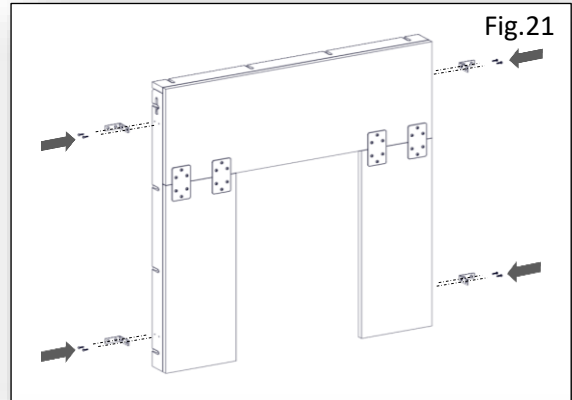

Fig.21
31. Using the 8x 16mm Dome Head (F) screws supplied. Screw the 4x Mantel Brackets (B) to the sides of the Back Panel. The Back Panel sides have pre-drilled pilot holes to add fitment. Fig.21&22.